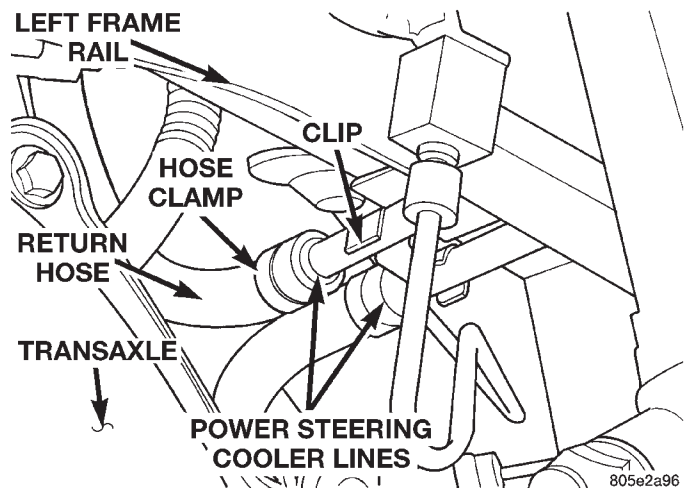

Fig. 28 Power Steering Cooler Line Clip
(8) Lower the front suspension crossmember. Refer to the steering gear service procedures in this group of the service manual for the required procedure for the removal of the front suspension crossmember.
(9) Remove the clip (Fig. 28) holding the power steering fluid cooler lines together.
(10) Remove the hose clamp (Fig. 28) attaching the power steering fluid return hose from the engine, (Fig. 28) to the power steering fluid cooler lines.
(3) Install the power steering fluid return hose coming from the engine on the power steering cooler line (Fig. 28). Install the hose clamp on the power steering fluid hose. **Be sure hose clamp is installed on hose past the upset bead on the power steering cooler line.**
(5) Install the clip (Fig. 28) holding the 2 power steering fluid cooler lines together.
(6) Install the front suspension crossmember. Refer to the steering gear service procedures in this group